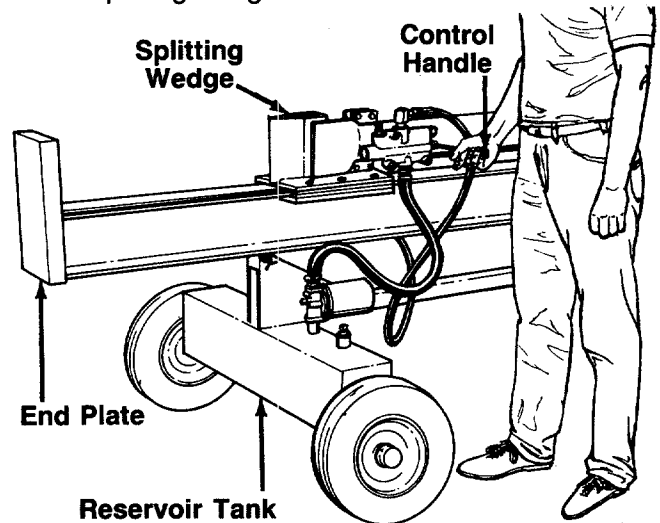

**FIGURE 16.—Vertical Operation**
**Use the log splitter only on a level, hard surface. Never stand next to the splitting wedge when operating the log splitter. Always stand behind the reservoir tank.** See figures 16 and 17. Never attempt to cut a log in half sideways. Always split the log lengthwise. Maximum length of log to be split is 24".
- **Step behind the reservoir tank** (see figures 16 or 17) and push the control handle in forward position until the log is split.